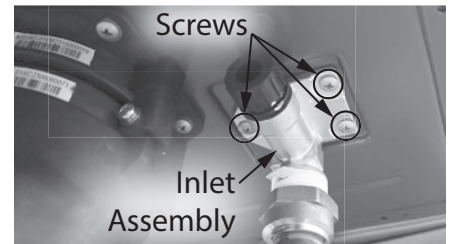

Figure 224 - Inlet assembly location
- 20 Locate the inlet assembly at the bottom right side of the water heater as shown in Figure 224.
- 23 Locate the three (3) screws securing the inlet assembly to the base of the water heater. Use a Phillips screwdriver to remove the screws. Place screws aside in a safe place for reinstallation. See Figure 224.